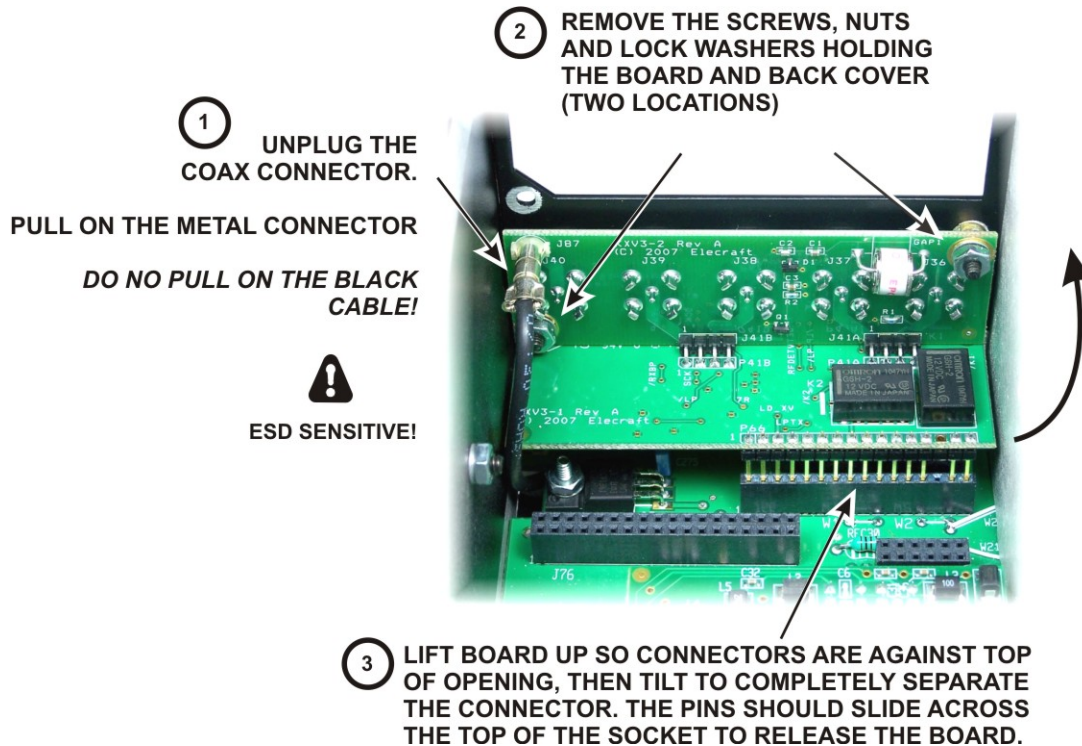

Figure 5. Removing the KXV3 Board.
Remove the KXV3 board as shown in Figure 5. For clarity, the KRX3 RF module has been removed. If you have the KRX3 subreceiver installed, it will be easiest to first unplug the KXV3 module then slide it out through the left side.
- Replace the KXV3 board in your K3 (see Figure 5) as follows:
- Press down on the KXV3 board to mate the connector only far enough to align the screw holes with the holes in the back panel. Remember that a portion of the pins will still be visible when it is in position (See Figure 5).